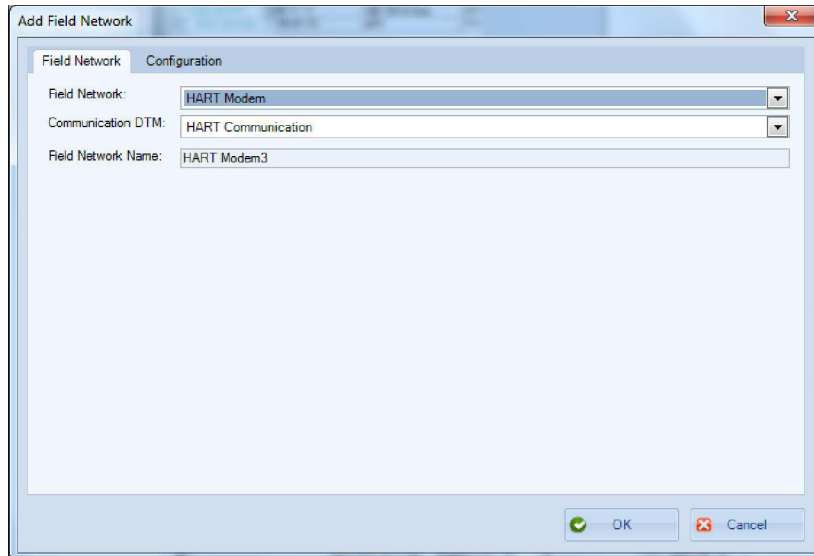

Figure 17 - Add Field Network
1. Click **Settings > Field Networks**, click **Add** and Figure 17 appears.